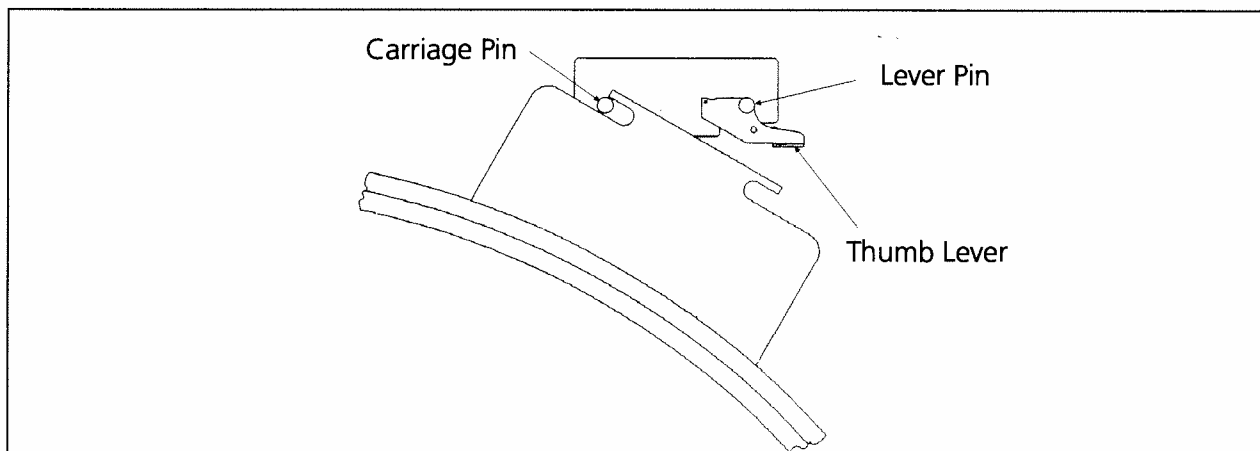

Figure 4-14
1. Slide a notch of the hoop mounting bracket around the carriage pin as shown in Figure 4-14.